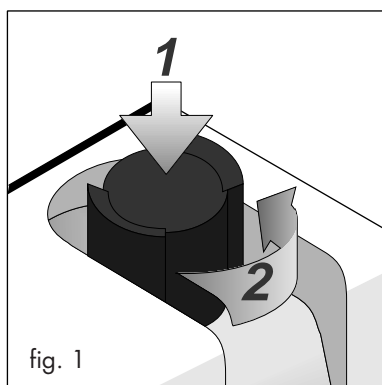

fig. 1
- This equipment is fitted with a special safety cap. To unscrew, **press** down while **turning anti-clockwise**. (See fig. 1).